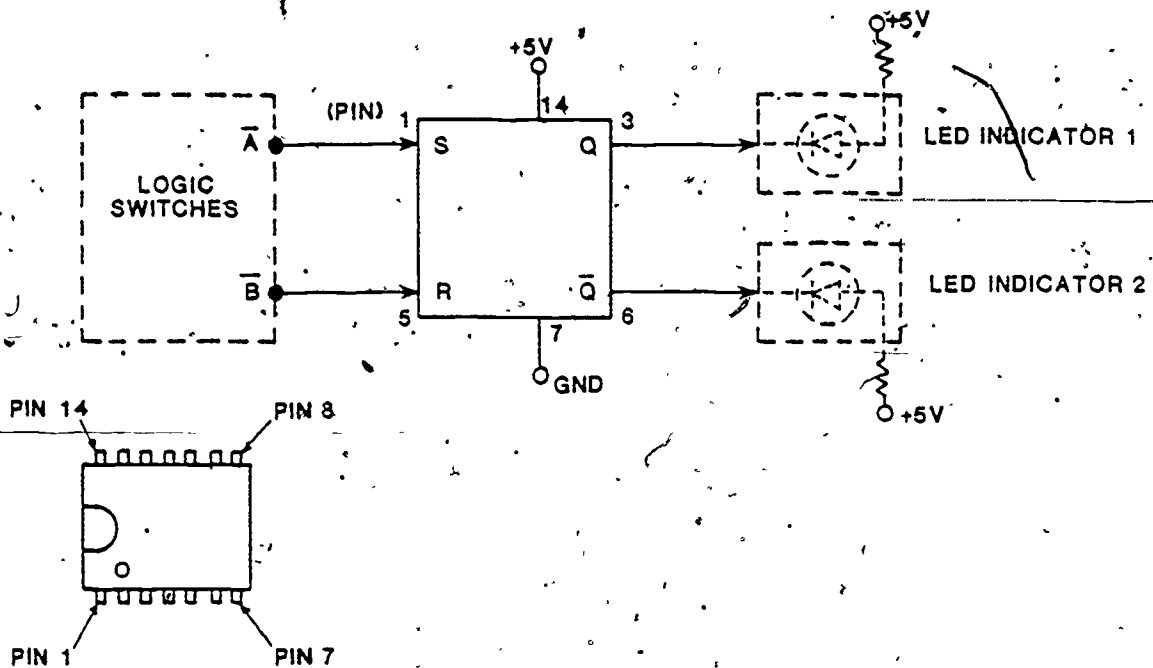

Figure 24. (NAND Gate) SR Flip-Flop.
1. Construct the circuit shown in Figure 24.